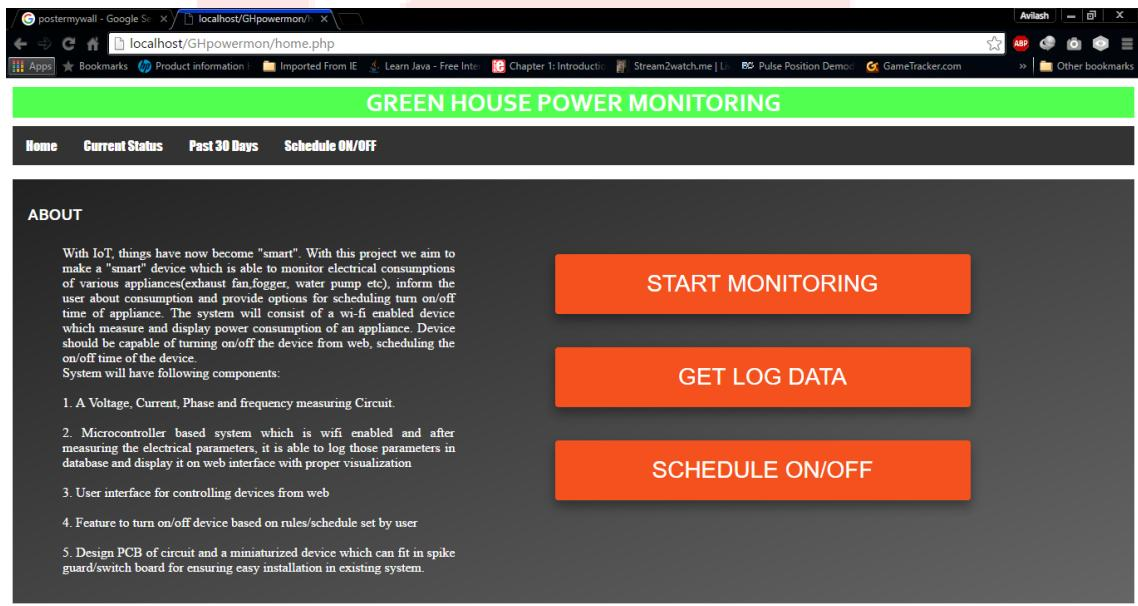

Figure 1.25: Home Page
- Figure 1.25 shows the home page of the web based GUI, with 3 buttons